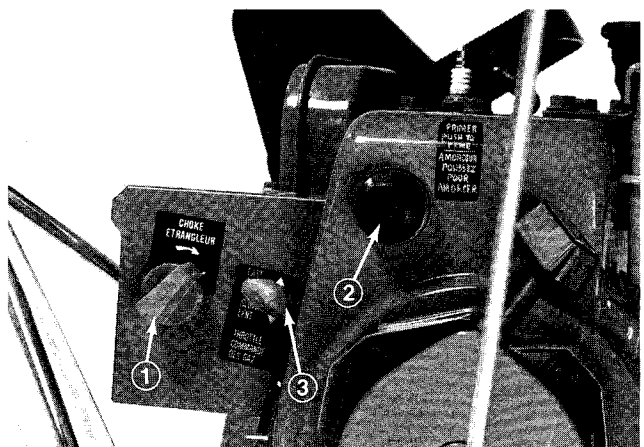

Figure 21
1. Move throttle to FAST (Fig. 21).
3. Rotate choke clockwise to full choke position (Fig. 21).
5. Depress primer (Fig. 21) five times.
7. After engine starts, immediately rotate choke (Fig. 21) to 3/4 position. As engine warms up,